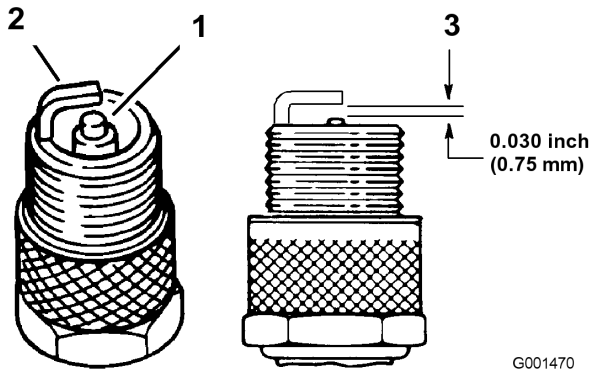

Figure 24
1. Look at the center of the spark plugs (Figure 24).
3. Check the gap between the center and side electrodes (Figure 24). Bend the side electrode (Figure 24) if the gap is not correct.
3. Connect the wires to the spark plugs (Figure 24).